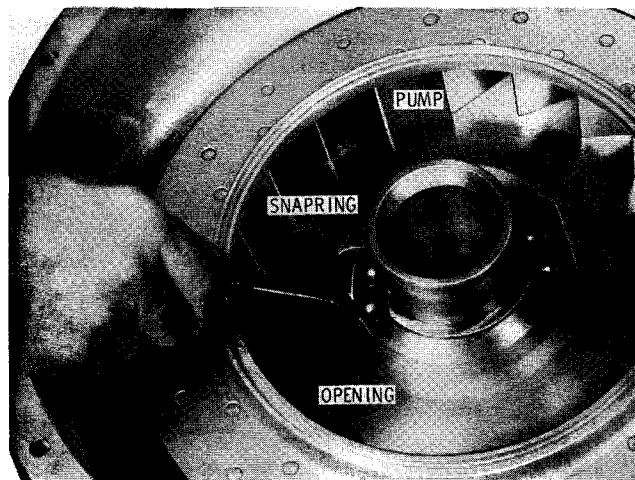
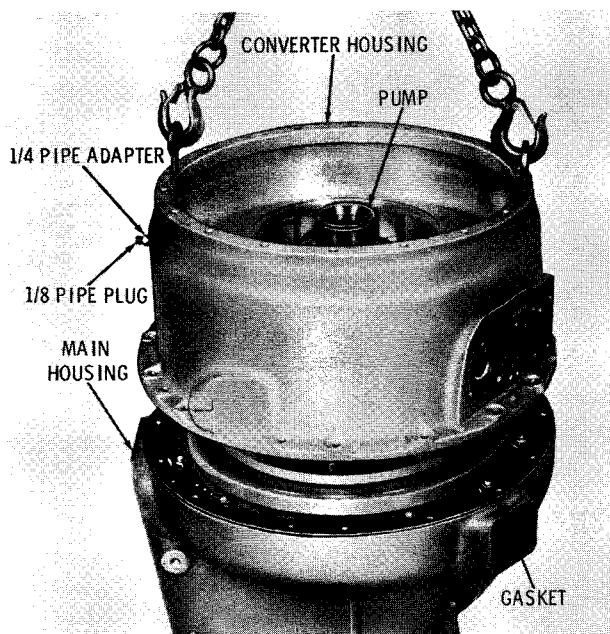

Fig. 5-15. Removing (or installing) inner bearing snapping (VS2 series) S2015
Fig. 5-16. Removing (or installing) converter housing S2016
(7) On the VS2 transmission, the snapping (fig. 5-15) can be removed from the pump by lifting the snapping from the groove and rotating the pump, thus working the snapping out of the opening in the pump.
(8) Remove sixteen bolts 9 (A, fold-out 13) and lockwashers 8 from the converter housing to the main housing splitline.
(9) Remove the converter housing (fig. 5-16) from the main housing. The pump, bearing and snapping (VH only) will come off with the housing. Remove a 1/8 pipe plug and a 1/4 pipe adapter from the housing.